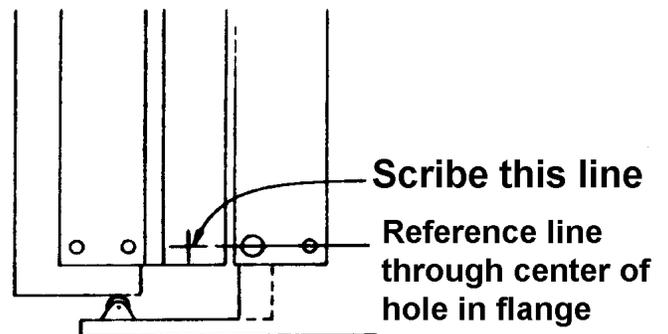

Figure 2
8. Using this distance, scribe a horizontal line on the door's vandal panel. See figure 2 below.